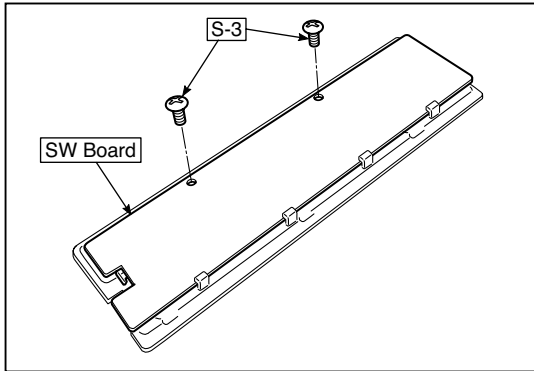

Fig. 16
3. Remove the "S-3" screws shown in the figure 16 and then remove the SW Board.
1. Disconnect the CIS Cable (FFC), shown in the figure 16, from a connector.